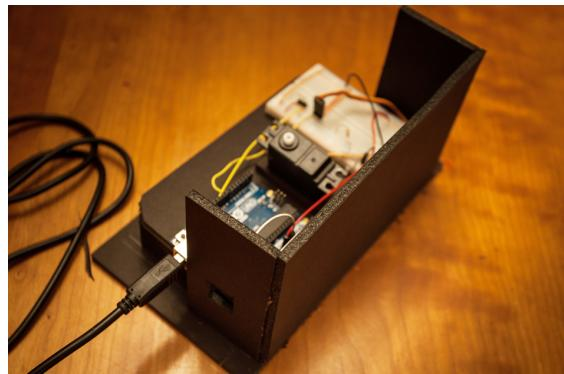

Figure 7-7 The rear and side walls in place
4. Glue 'em up! It should look like Figure 7-7.